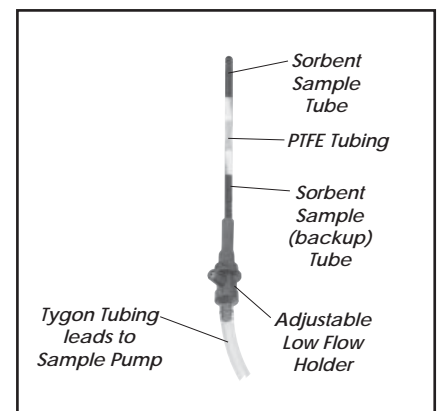

Figure 1. Two tubes in series with adjustable low flow holder
2. Setting Up the Calibration Train with Adjustable Low Flow Holder — See Figure 1